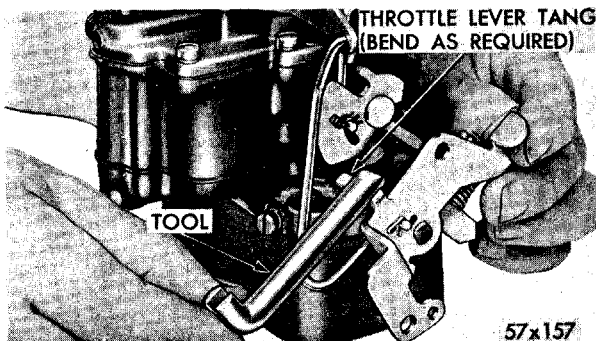

Fig. 26—Bending Tang on Throttle Lever
(2) To adjust, bend the tang on the throttle lever using Tool T109-214, as shown in Figure 26.
(3) Hold choke open and then open and close the throttle valves. Failure to obtain full throttle operation